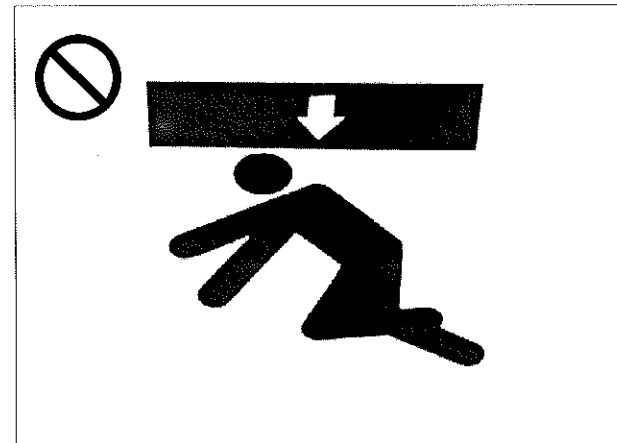

Fig.2-44
- Use jacks or iron pillars to support the machine or accessories safely. See Fig. 2-44.